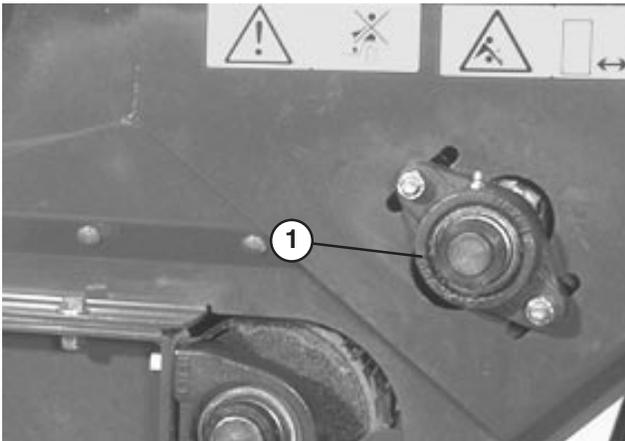

Figure 14
1. Loosen nuts securing bearing housing (Fig. 14) to right side of machine.